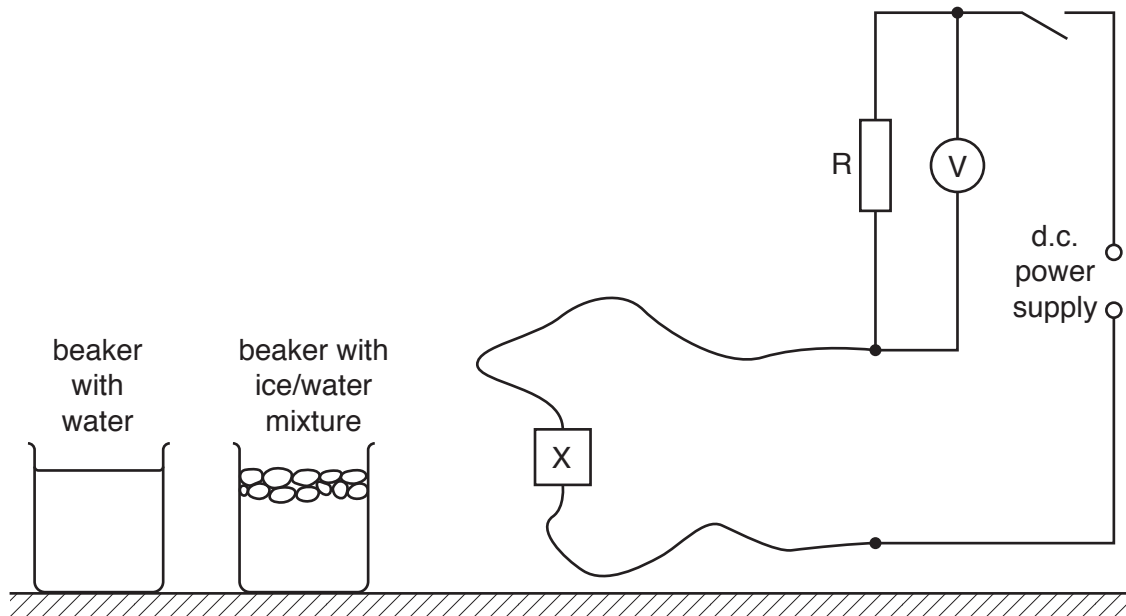

Fig. 2.1
5. The Supervisor should set up the apparatus as shown in Fig. 2.1. Supervisors should check th... when the thermistor is placed in the beaker of water at room temperature the reading on the voltmeter is in the region of 4 V. If a different thermistor to that described in Note 2 is used then the value of R will need to be changed. Generally a larger value of R will give a larger reading on the voltmeter.
- ensure that the apparatus has been restored to its original state as in Fig. 2.1. If cells are used in the circuit, they should be checked and replaced, if necessary.